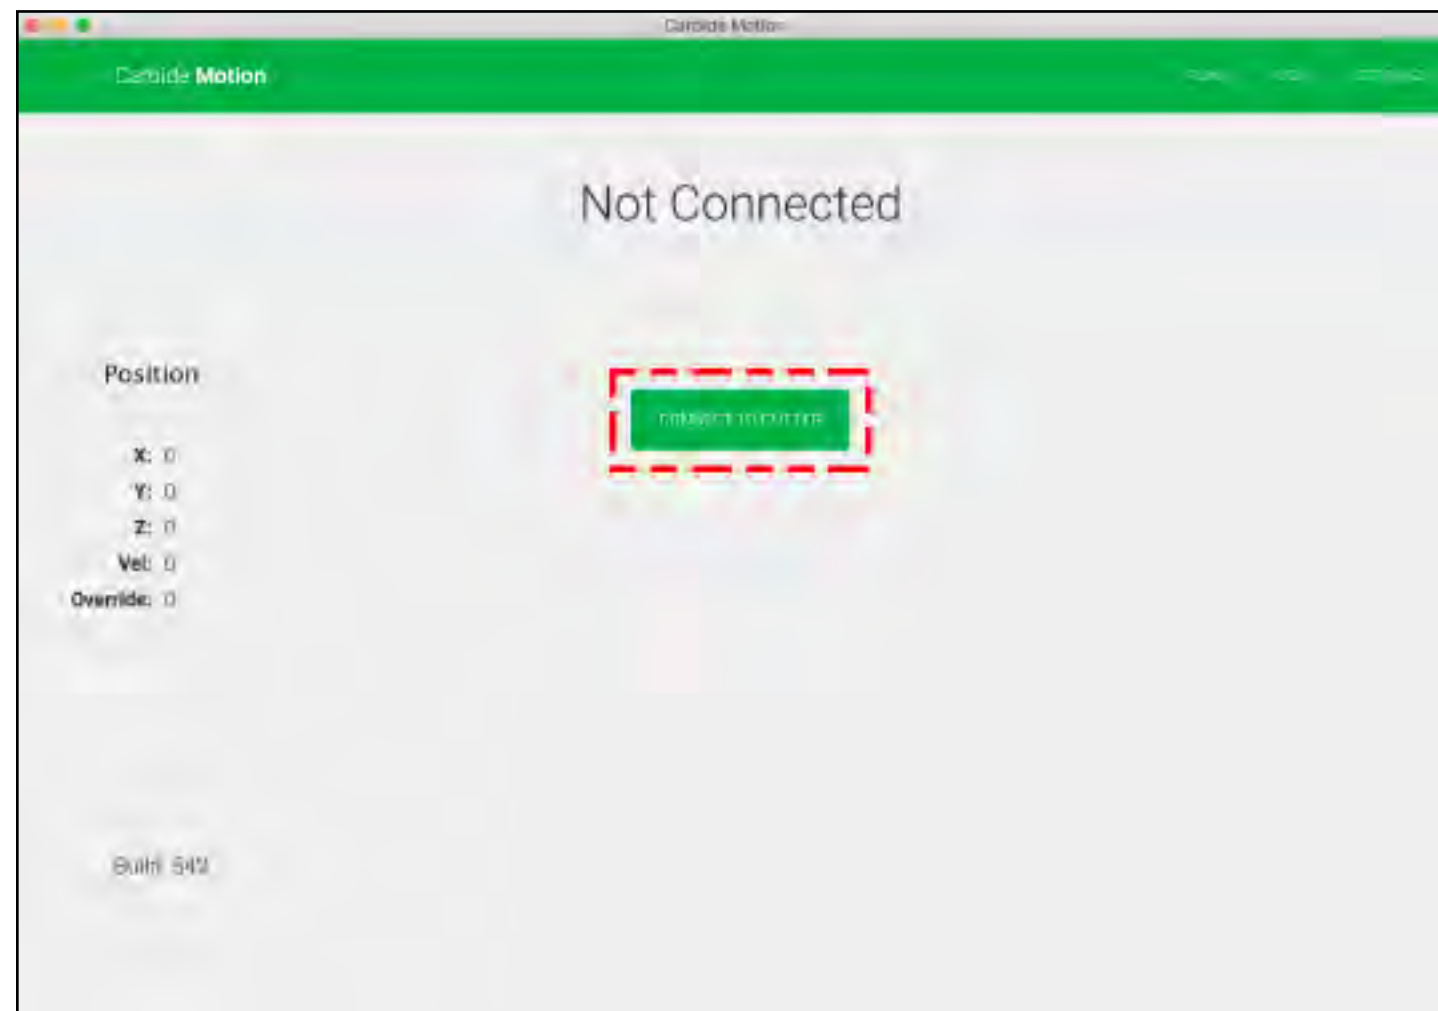

Figure 10-1
6. In Carbide Motion, click the **Connect to Cutter** button. See Fig. 10-1.